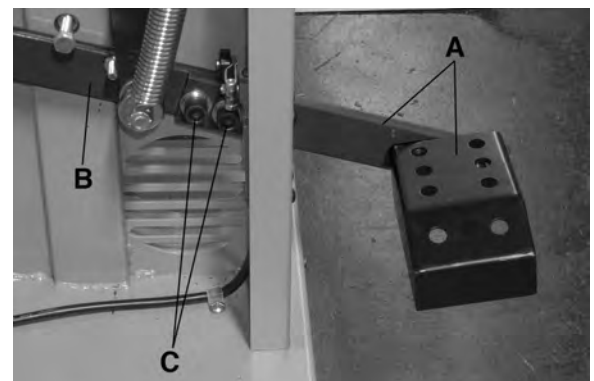

FIGURE 7
1. Open the lower wheel cover, slide the foot pedal and mounting arm assembly (A) Fig.7 through the side opening of the base and mount it to the inner mounting bar (B) using 2 cap screws and spring washers (C). Firmly tighten using the supplied hex. key.
The foot brake (A) Fig.7, a safety device, allows user to immediately immobilize the blade and shut-off the bandsaw during operation. This mechanism should not be used as the primary method of stopping bandsaw, it should only be used in emergency situations and when stopping the blade quicker than the normal is required. Use the emergency stop button on the control panel as the primary method of stopping bandsaw.